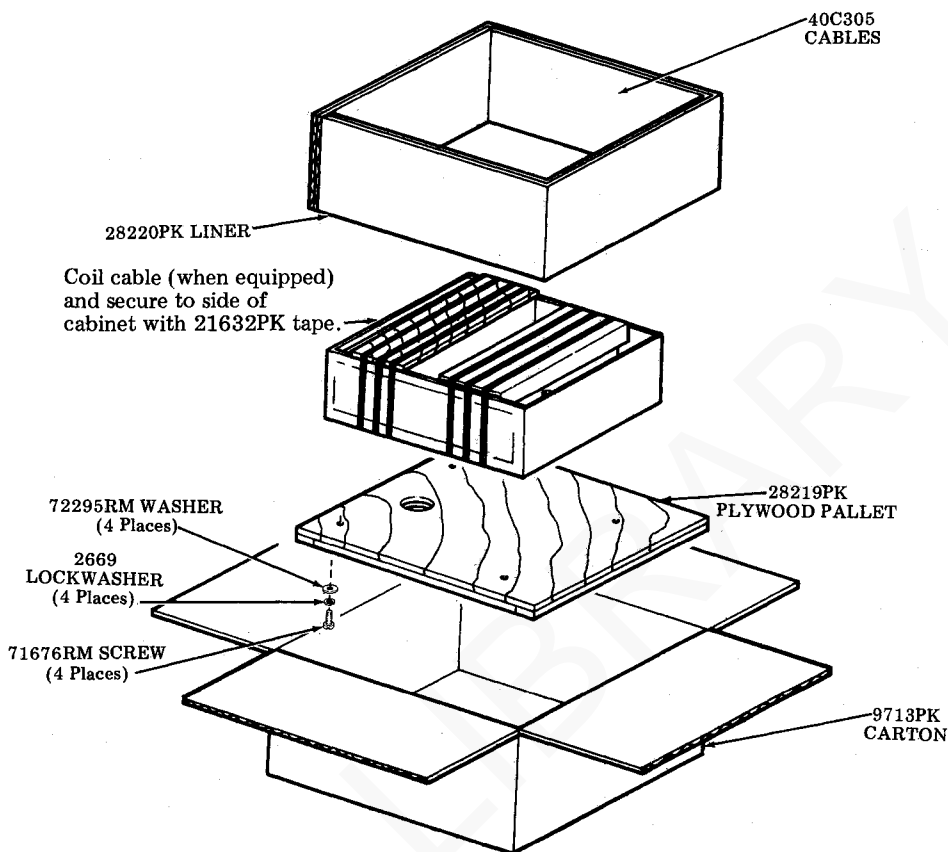

Fig. 66
- Step 1. Mount unit frame to a 28219PK plywood pallet with four 71676RM screws, four 2669 lock-washers and four 72295RM washers as illustrated in Fig. 55. The large hole in the pallet must be in line with the hole used to mount the PSU in the base. (See Fig. 66.)
- Step 9. Coil unit cable (when equipped) and secure to side of unit with 21632PK tape. Place palletized unit in carton. (See Fig. 66.)
- Step 10. Form a 28220PK liner and place in carton around unit. (See Fig. 66.)
- Step 13. Place cables between controller and 28220PK liner on side adjacent to fans. (See Fig. 66.)